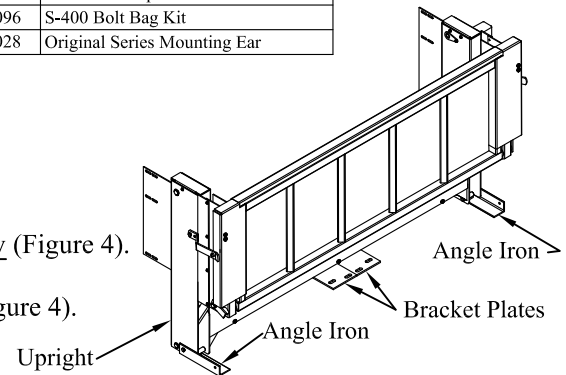

Figure 4: Complete liftgate (**G2** shown).
5. **Unbolt** and **Save** the two (2) angle irons attached to the liftgate uprights- **G2 only** (Figure 4).
6. **Remove** and **Save** the two (2) bracket plates attached to the liftgate- **G2 only** (Figure 4).